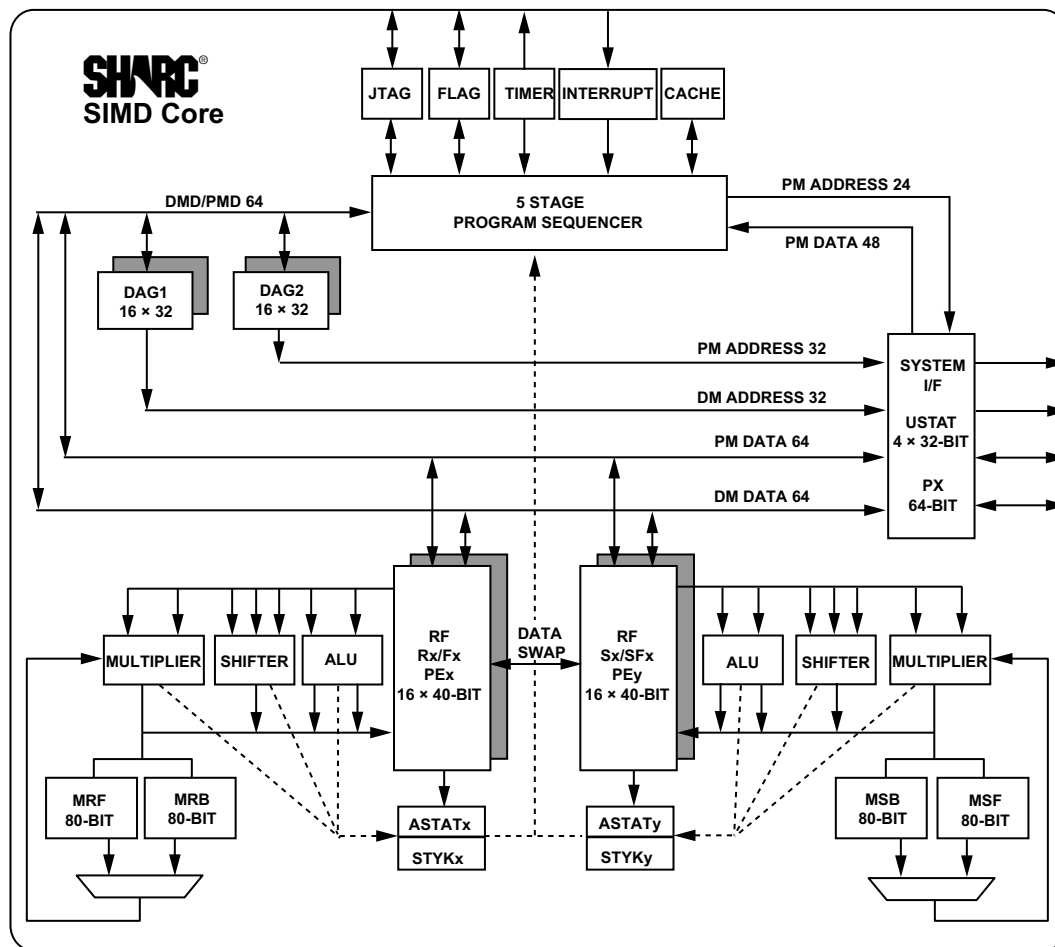

Figure 2. SHARC Core Block Diagram
The processors are code compatible at the assembly level with the ADSP-2137x, ADSP-2136x, ADSP-2126x, ADSP-21160, and ADSP-21161, and with the first generation ADSP-2106x SHARC processors. The ADSP-21467/ADSP-21469 processors share architectural features with the ADSP-2126x, ADSP-2136x, ADSP-2137x, and ADSP-2116x SIMD SHARC processors, as shown in Figure 2 and detailed in the following sections.
The processors feature an enhanced Harvard Architecture in which the data memory (DM) bus transfers data and the program memory (PM) bus transfers both instructions and data (see Figure 2). With its separate program and data memory buses and on-chip instruction cache, the processor can simultaneously fetch four operands (two over each data bus) and one instruction (from the cache), all in a single cycle.